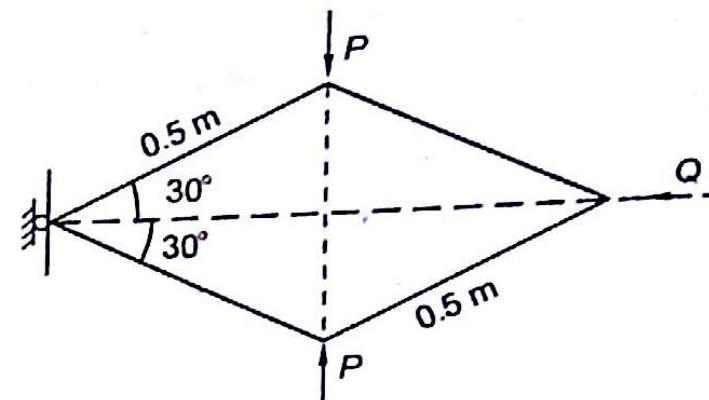

Fig. 9.39
9.8 Determine the horizontal reaction Q from the frame consisting of a rhombous of sides 0.5 m as shown. Frame carries two loads P as shown in Fig. 9.39